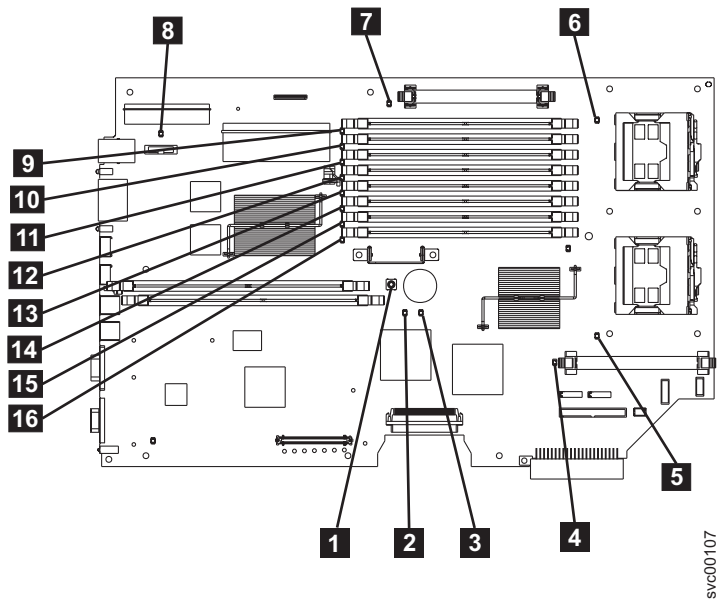

Figure 93. SAN Volume Controller 2145-8F2 and SAN Volume Controller 2145-8F4 system board LEDs
- YES** Refer to Table 47 on page 254 and perform the action specified for the specific light path diagnostics LEDs, then go to step 3 on page 256. Some actions will require that you observe the state of LEDs on the system board or on the fan backplanes. The location of the system board LEDs are shown in Figure 93 on page 254. The fan LEDs are located adjacent to each FAN. To view the LEDs you will need to do the following:
- d. Press the light path diagnostics button **1**. See Figure 93 on page 254.